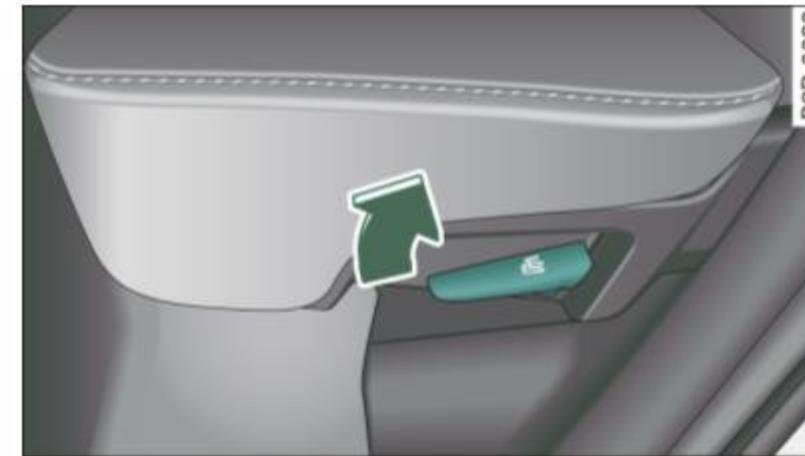

Fig. 77 Release lever for the outer backrest
- Pull the lever up ⇒ fig. 77. The backrest will swing forward.
- Pull the lever up ⇒ *page 77, fig. 77* and fold the backrest back up again until it latches secure ⇒ ⚠.
- Pull the lever up ⇒ *page 77, fig. 77* and fold the backrest back up again until it securely latches ⇒ ⚠.